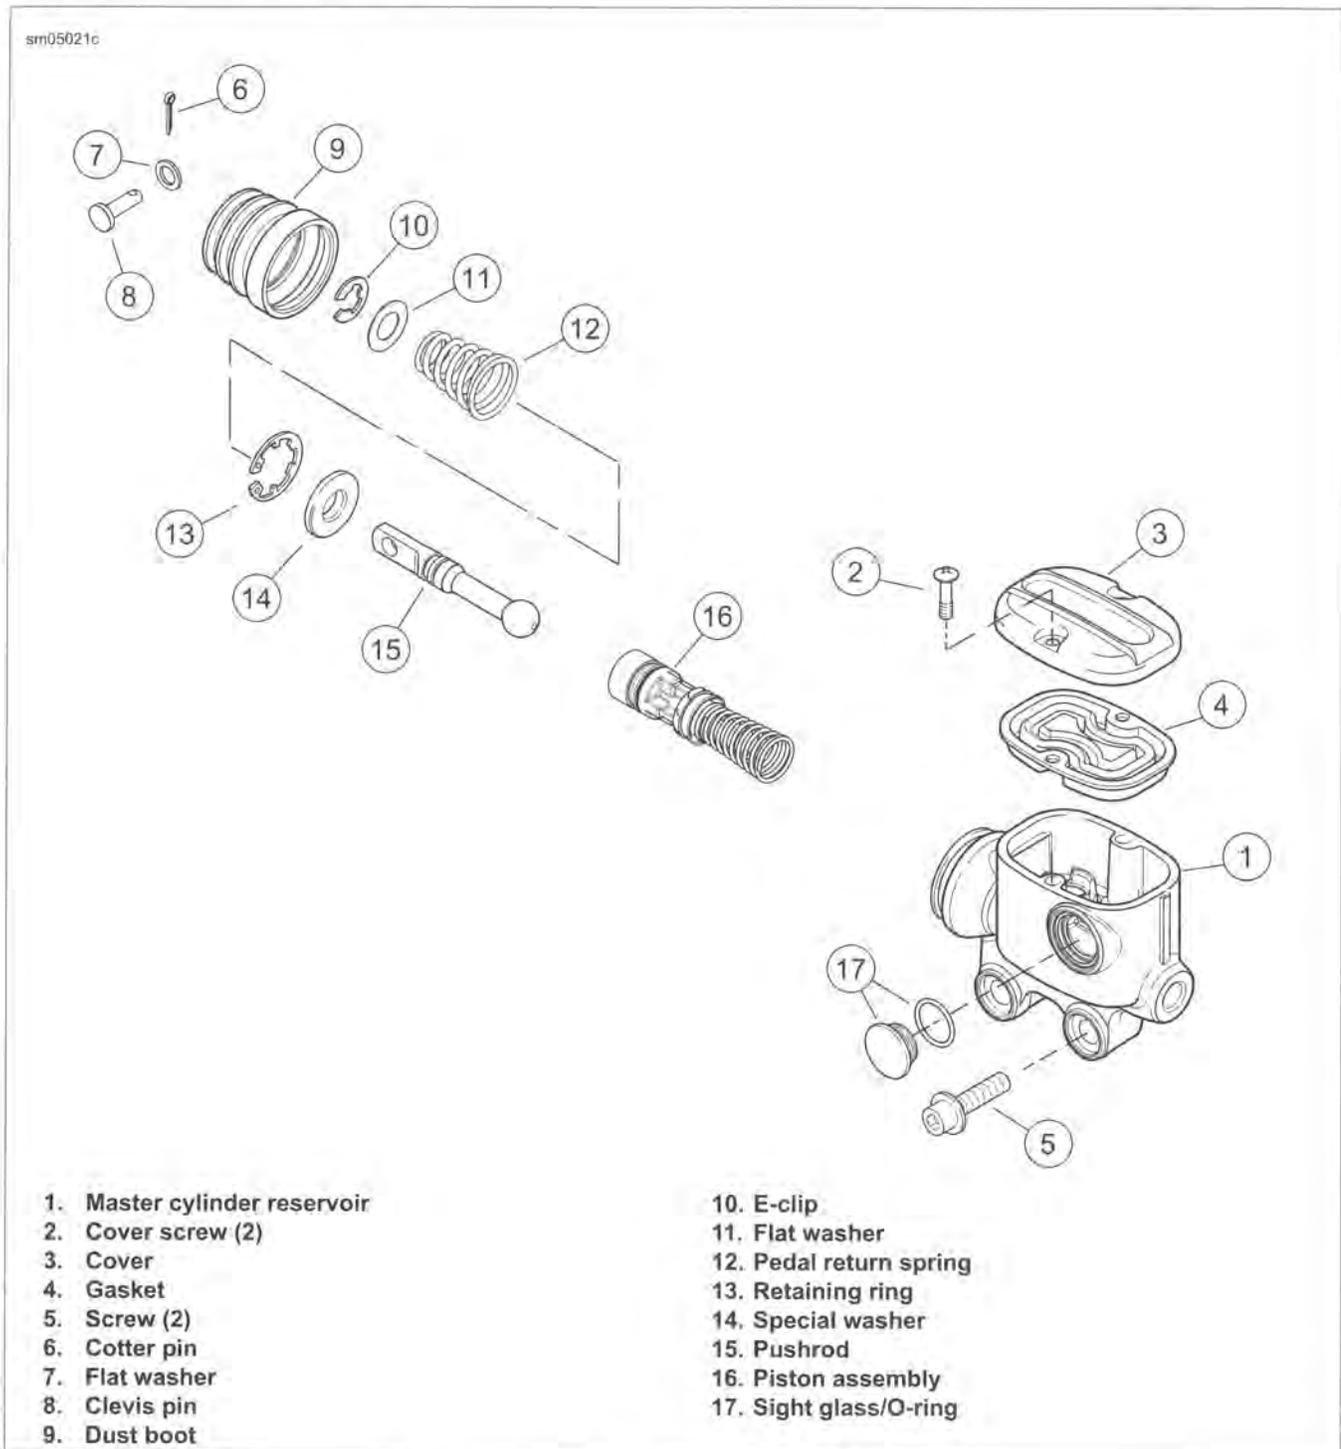

Figure 2-49. Rear Brake Master Cylinder Assembly
1. See Figure 2-49. Remove dust boot (9) from reservoir pulling and pushrod.
2. Push on flat washer (11) to compress pedal return spring (12). Remove E-clip (10) from groove in pushrod, and carefully release spring tension.
3. Remove flat washer (11) and pedal return spring (12).
4. Push on end of piston and remove retaining ring (13).
5. Remove pushrod (15) and special washer (14).